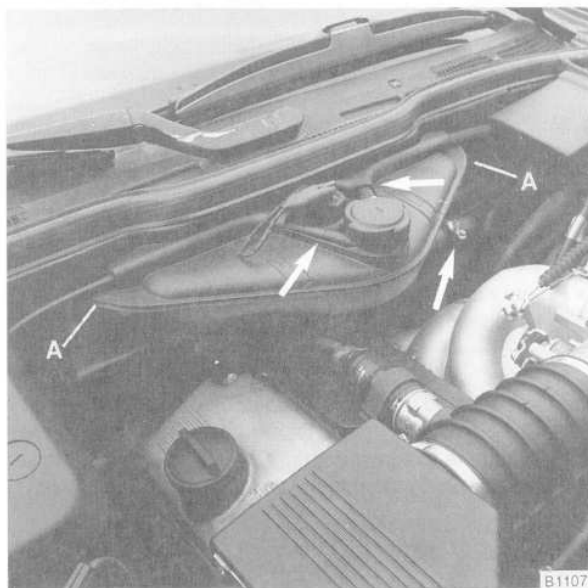

Fig. 32. Coolant reservoir hoses and connectors to be disconnected (arrows). Remove mounting bolts at A to remove reservoir.
5. Working at the coolant reservoir, disconnect the harness connector from the coolant level sensor. Disconnect all the coolant hoses from the reservoir. Remove the reservoir mounting bolts and remove the reservoir from the car. See Fig. 32.